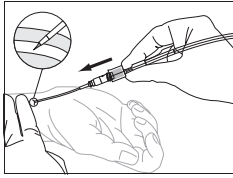

Figure 1
5. Perform arterial puncture. Blood flashback in clear hub of introducer needle indicates successful entry into vessel (refer to Figure 1).